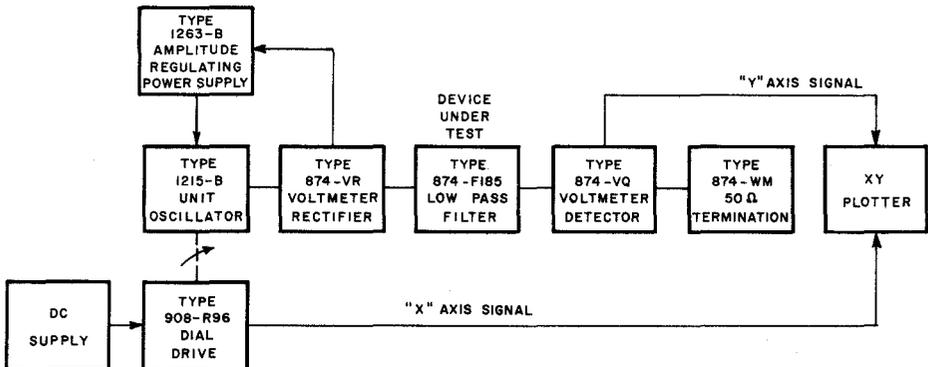

Figure 3. Typical setup for plotting frequency characteristics.
**1.3.4 MATCHED DETECTOR.** In setups for measuring transmission or frequency characteristics of various elements and networks, a Type 874-VQ Voltmeter Detector, terminated in a Type 874-WM Termination Unit, can be used at the output of the unknown to measure the output signal. The Type 874-VQ Voltmeter Detector is similar to the Type 874-VR Voltmeter Rectifier (paragraph 1.3.2), except that it does not contain a series 50-ohm resistor and does contain compensating elements to minimize discontinuity produced by the shunt reactance of the crystal diode. A block diagram of the set-up for plotting frequency characteristics of a Type 874-F185 Low-Pass Filter is shown in Figure 3. In this diagram, the output of a Type 1215-B Unit Oscillator, regulated by the Type 1263-B Amplitude-Regulating Power Supply, is fed through the output rectifier (874-VR) to the device under test (874-F185). The output from the device under test is detected by the properly terminated Type 874-VQ Voltmeter Detector and the characteristics are plotted on an x-y plotter.
constant output voltage in order that the final recording will be a direct indication of relative response. In the block diagram of Figure 3, a Type 908-R96 Dial Drive is shown driving a Type 1215-B Unit Oscillator, with the detected output of a low-pass filter plotted by an x-y plotter.